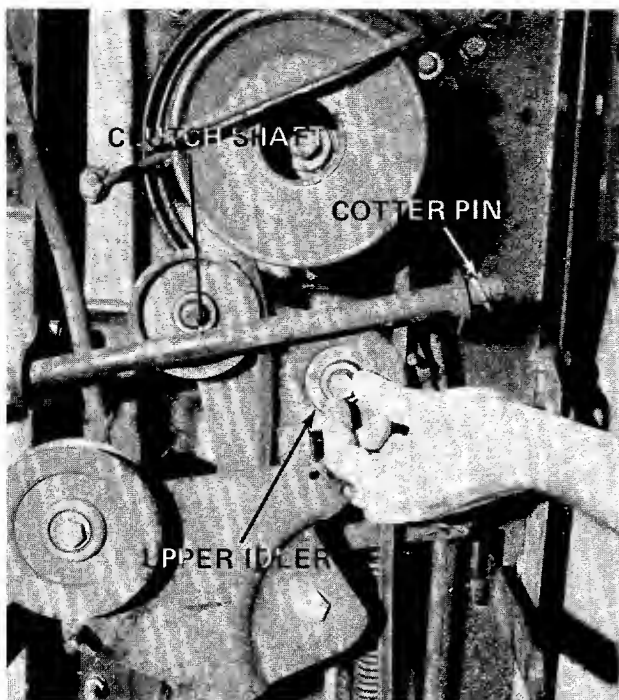

FIGURE 21.
7. Remove the cotter pin from the clutch shaft and pull it out of the bracket. See figure 21.